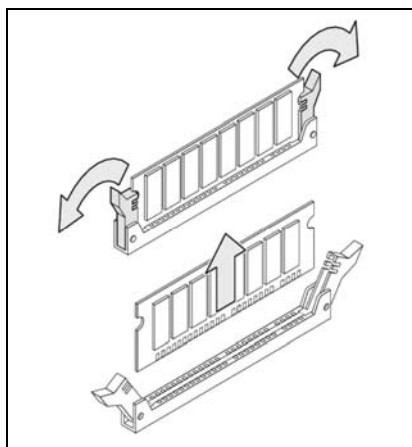

Figure A-5. Removing a DIMM Module
5. To remove a DIMM, carefully push the socket latches found on either side of the DIMM socket, then pull the DIMM out of the socket (see Figure A-5). The latches hold the DIMM tightly, so be careful not to damage the socket.